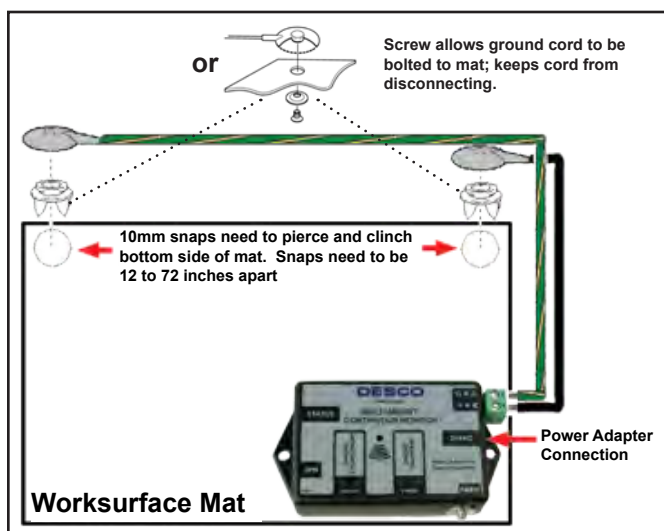

Figure 3. Installation method #1 of the Multi-Mount Continuous Monitor
2. The Multi-Mount Continuous Monitor may be mounted to a convenient location using the included mounting screws or Velcro® set. See Figure 3 for installation set-up.